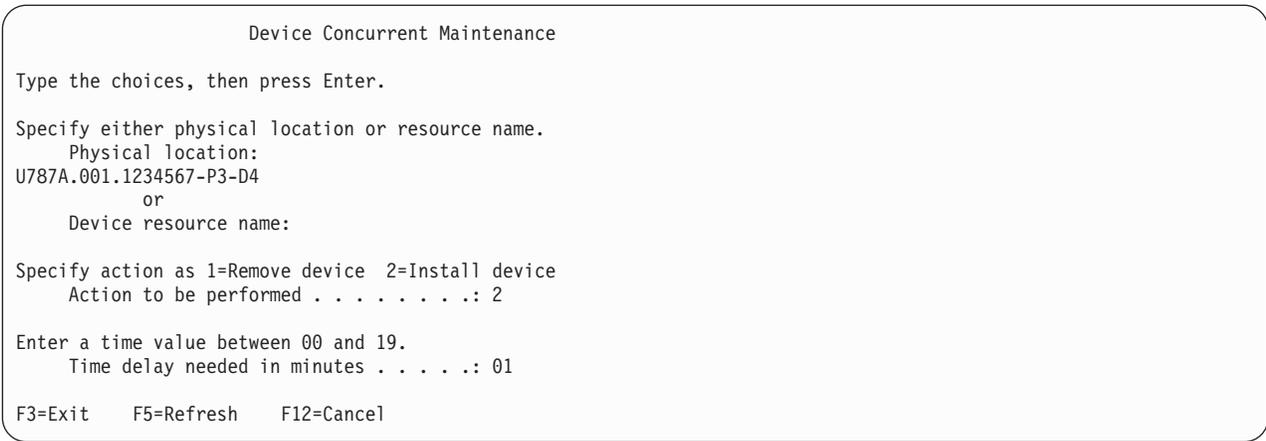

Figure 33. Example Device Concurrent Maintenance display
8. In the **Specify either physical location or resource name** field, type the physical location that you had previously recorded in this procedure, as shown in Figure 33.